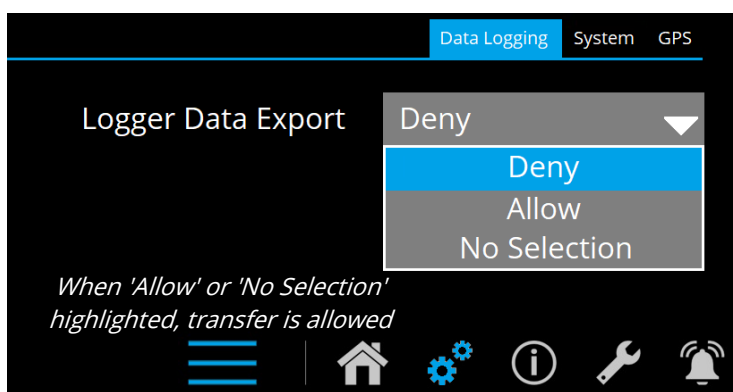

Figure 1: Data Logging page showing data log transfer authorized
- c. **SELECT** 'Data Logging' tab (Figure 1).